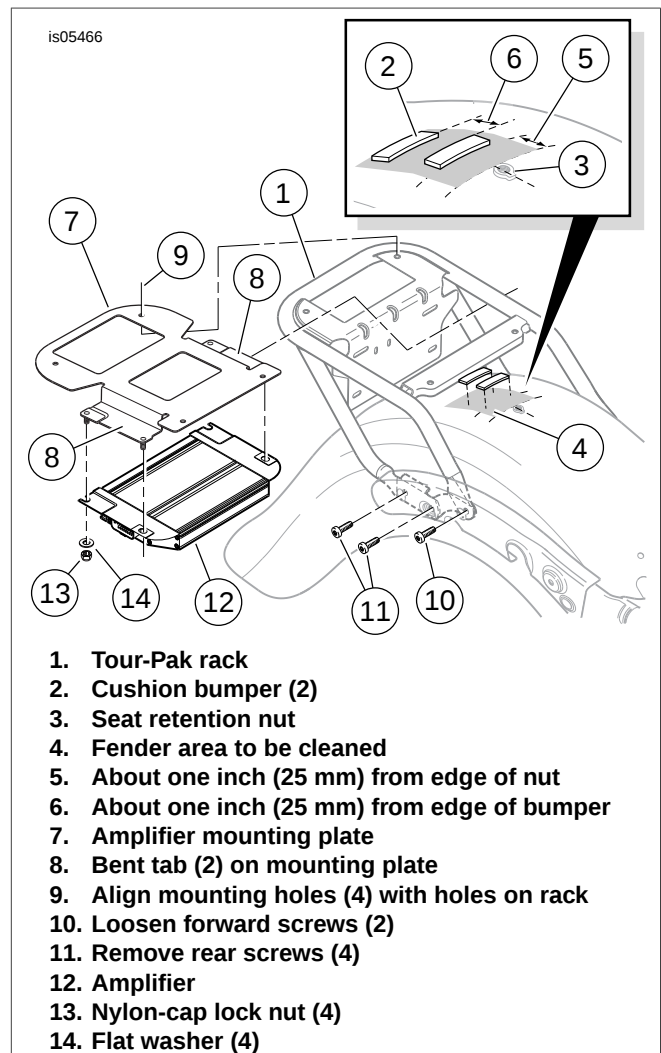

Figure 3. Amplifier Installation, 2009 and Later Touring Models
2. See Figure 3. Obtain the two cushion bumpers (2) from the kit.
3. Use isopropyl alcohol to thoroughly clean the rear fender surface in the area (4) behind the seat retention nut (3).